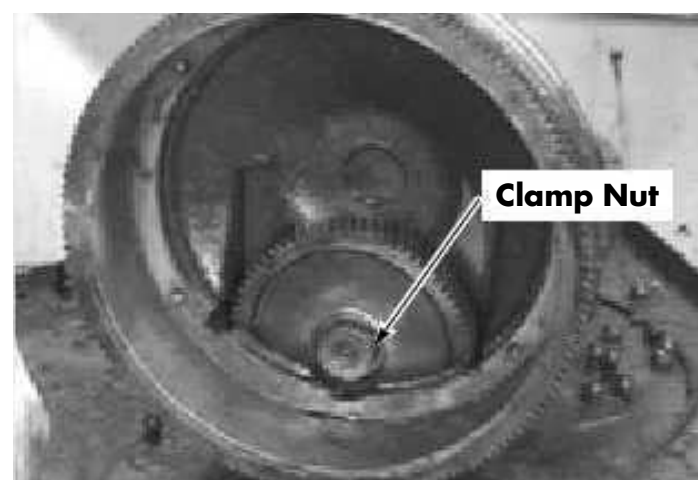

Figure 7-110. Clamp Nut Removal
1. Loosen the set screw on the clamp nut on the spiral pinion gear shaft. Using Tool 761-870/T03, remove the clamp nut. See Figure 7-110.